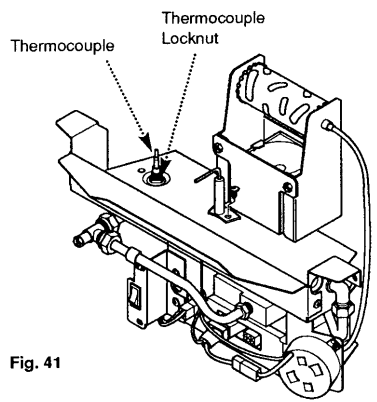

Fig. 41
10.4 Cleaning the Thermocouple (Fig. 41)